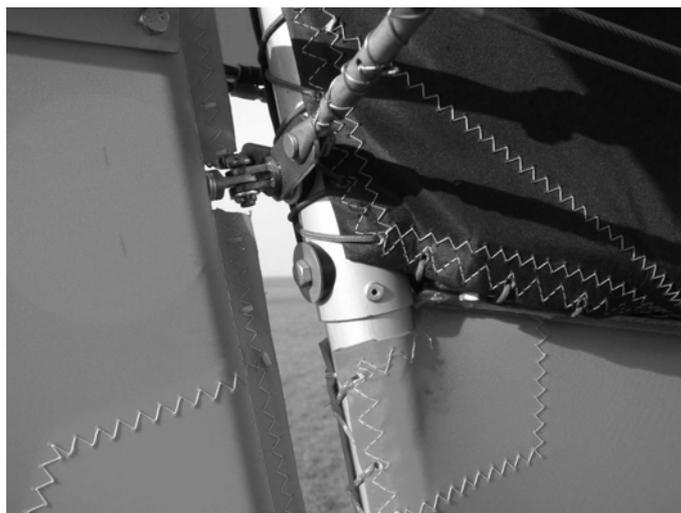

Figure 124; ventral fin rear mounting.
- d) Use a pair of 4mm steel pop rivets, one each side, to secure the fin, Figure 124.